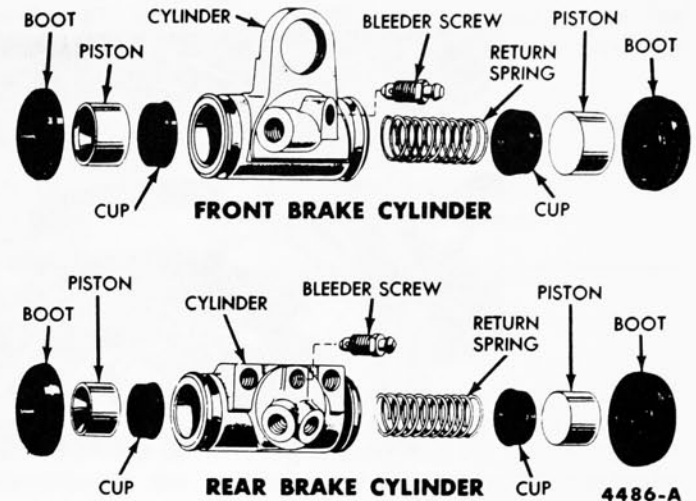

FIG. 11—Front and Rear Brake Cylinders
1. Remove the rubber boots from the ends of the brake cylinder, and remove the pistons, cups, and piston return spring from the cylinder (Fig. 11).
2. Install the bleeder screw (Fig. 11) in the brake cylinder.